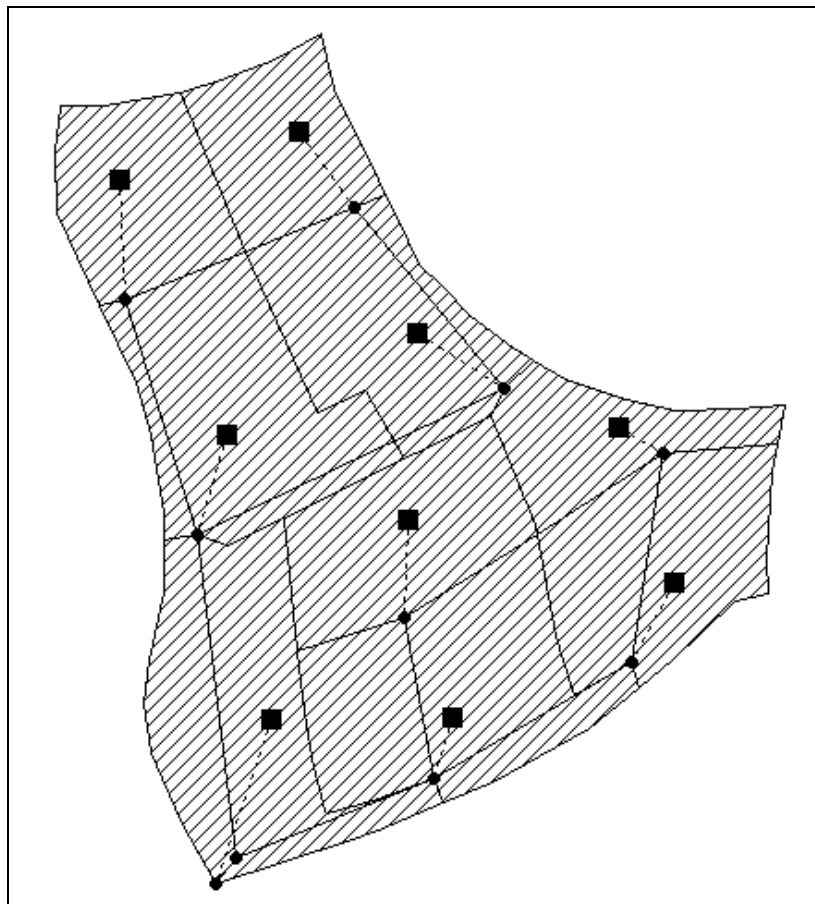

Figure 7 Cougar Estates Storm Drain Schematic from EPA SWMM
1. The EPA SWMM window should display an image similar to that shown in Figure 7.